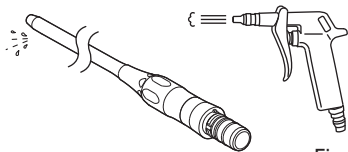

Fig. 23
- 1 Remove moisture on the surface of the product using a dry cloth, air gun, etc (Fig. 23).